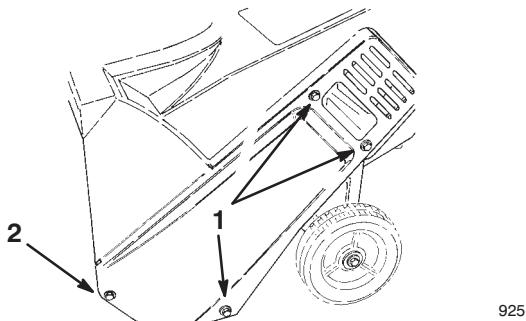

Figure 9
3. Remove the three self-tapping screws, one capscrew, one washer, and one nut that secure the left side cover to the snowblower frame (Fig. 9).